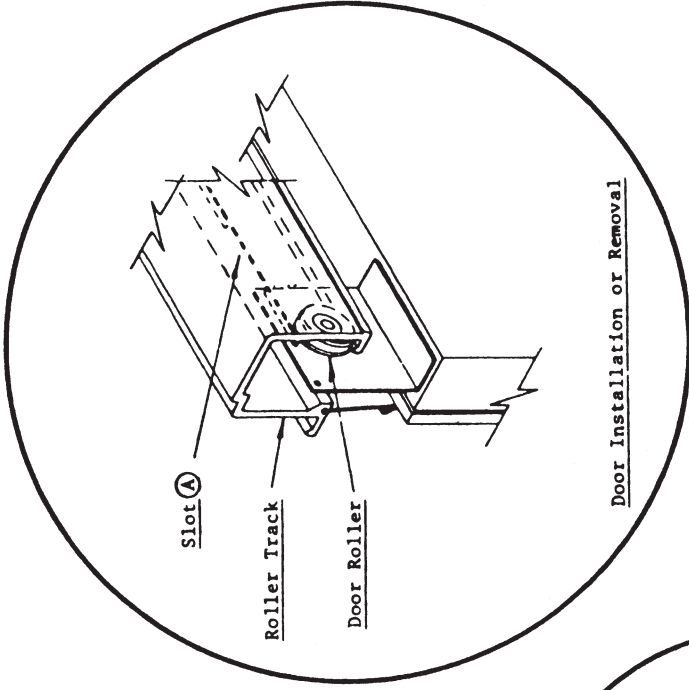

Fig. 4
(1) Slide Doors – Each door has its own Closing Spring located at the top and is positioned for Proper Tension. However if adjustment is required remove doors as follows:
- a. Locate Door Rollers under slot A show in fig.4, and lift door off track while tilting bottom of door out.